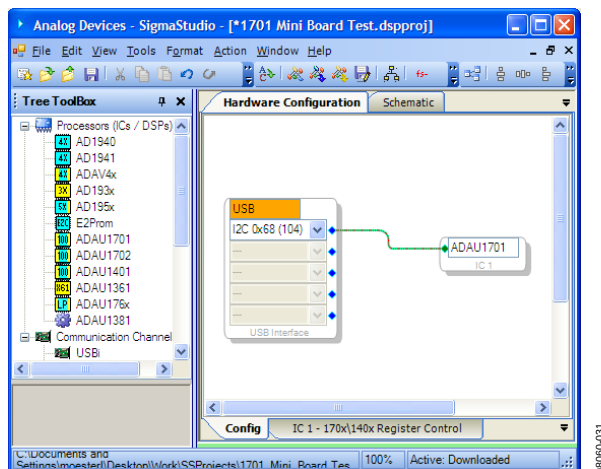

Figure 3. Hardware Configuration Tab
To create a new SigmaStudio project, follow the steps outlined below. To complete the steps, you will be working with the **Hardware Configuration** tab of the software shown in Figure 3.
2. Connect the **USBi** cell to the **ADAU1701** cell by clicking and dragging from the top blue output pin to the green input pin. Your screen should now appear as shown in Figure 3.